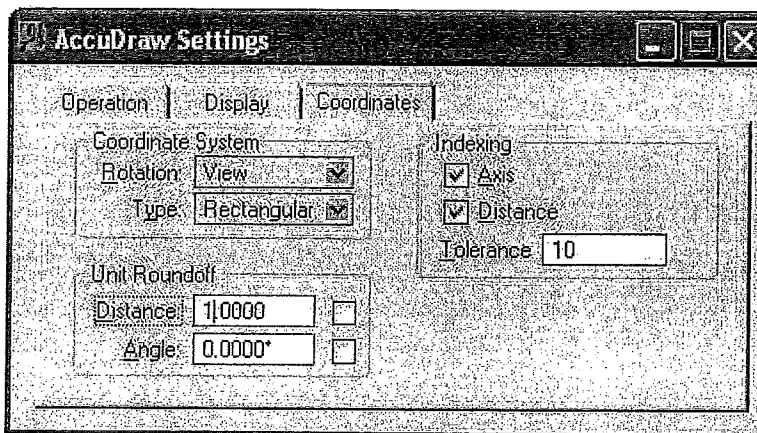

Figure P5-5 AccuDraw Coordinates settings
STEP 10: Click the **Coordinates** tab and make the settings shown in Figure P5-5.